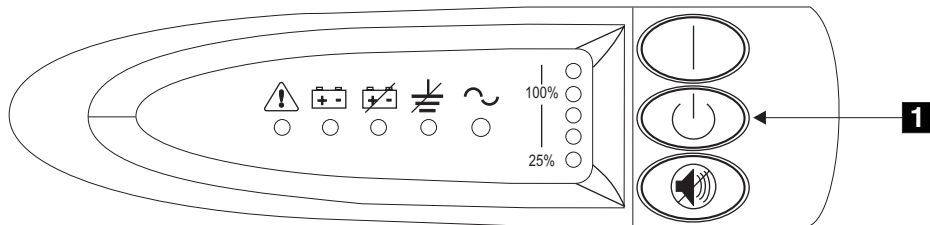

Figure 289. 2145 uninterruptible power supply front panel assembly
1. At the front of the 2145 uninterruptible power supply, press and hold the off button (**1** in Figure 289) for approximately five seconds or until the long beep stops.